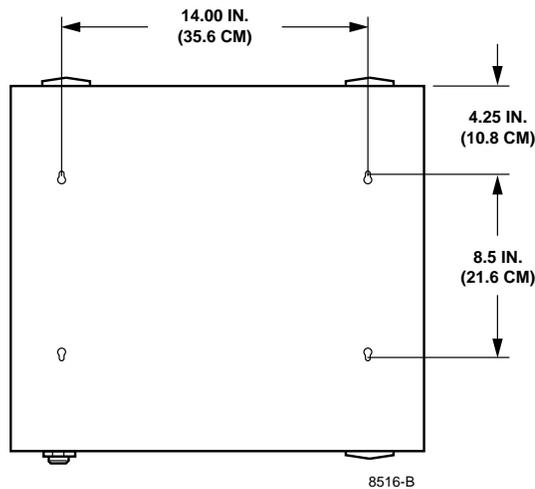

Figure 3. Mounting Hole Pattern
1.06 The wall box has four mounting holes at the corners of a rectangle that is 8.5 inches (21.6 cm) high and 14 inches (35.6 cm) wide (see Figure 3). The rear panel has two slots for the splice strap assembly that retains the splice trays. The left side of the wall box includes provisions for mounting a Hubbell connector kit (supplied) and four (staggered, high and low) cable clamp kits; also included are provisions (kits) for grounding the OSP cables to the wall box.
2.02 Four wall mounting slots (shown in Figure 3) are provided in the rear panel of the wall box. Use these four mounting holes to attach the wall box to the mounting surface. Install the wall box as follows: